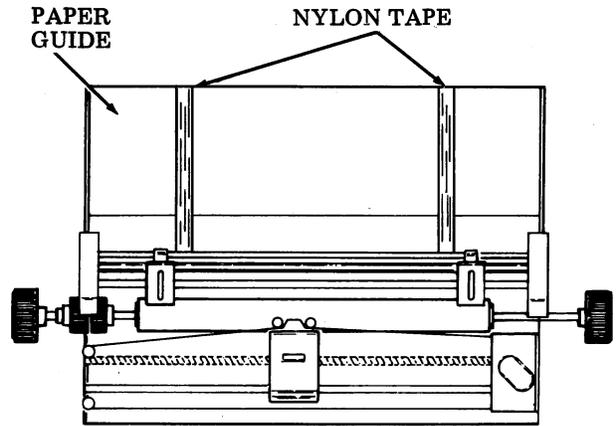

Fig. 11
5.03 Apply two strips of nylon tape to secure the paper guide as shown in Fig. 11.